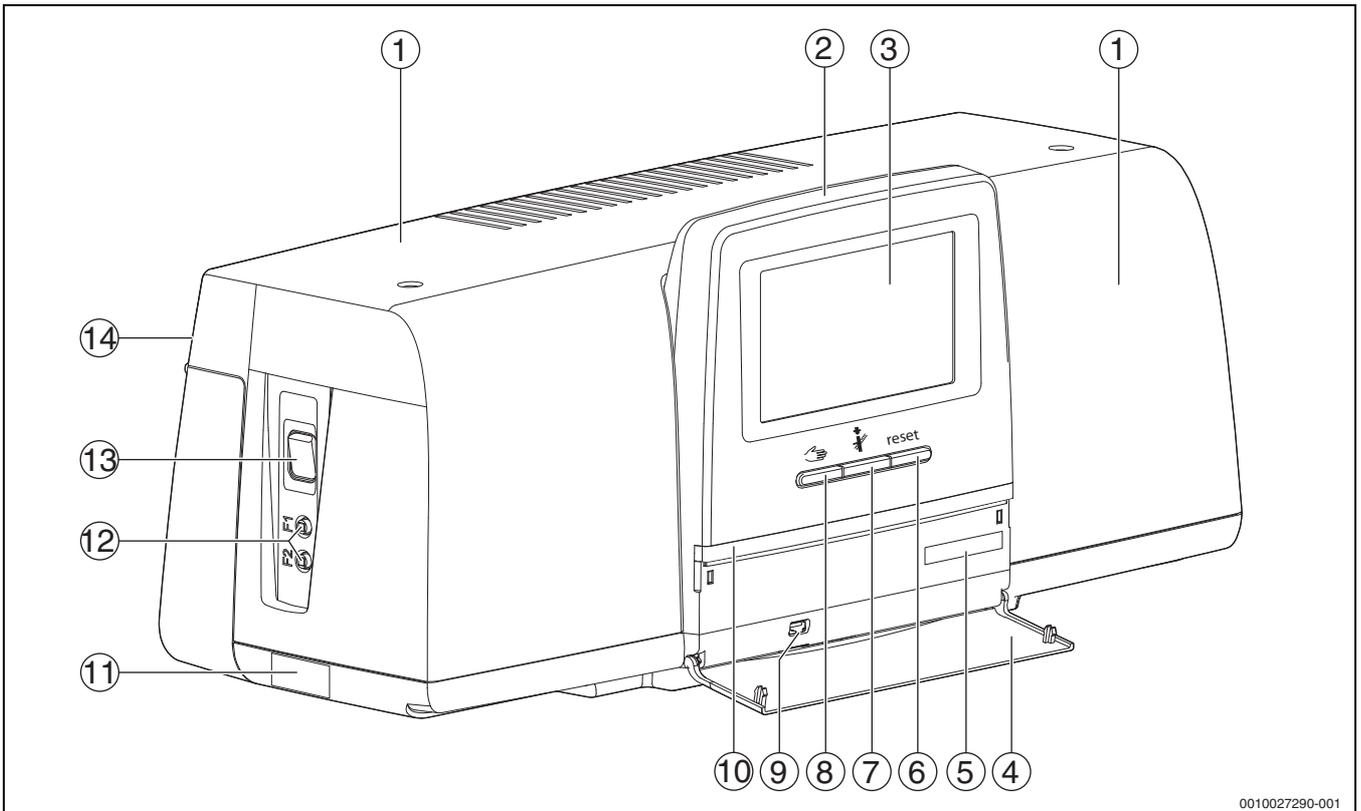

Fig. 7 Overview of the control unit and the control elements
The status of the system, the functions and system components is displayed via the status display (→ Fig. 13, [2], [6], page 13) and the LED status display (→ Fig. 7, [10], page 9):
- ▶ Switch control unit On/Off at switch (→ Figure 7, [13], page 9). The standard display appears following initialisation of the control unit, or if there has been no user activity at the display for some time. The system name of the control unit series appears briefly during initialisation.